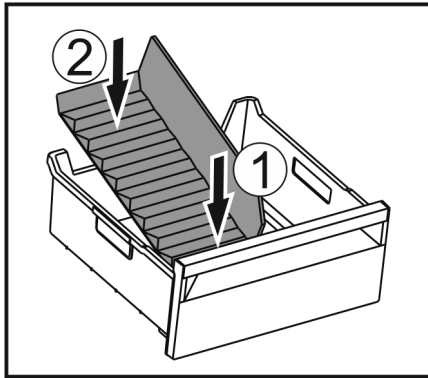

Fig. 139
- ▶ Insert the front part of the ice compartment divider. Fig. 139 (1)
- ▶ Lower the rear part of the ice compartment divider to the drawer bottom. Fig. 139 (2)